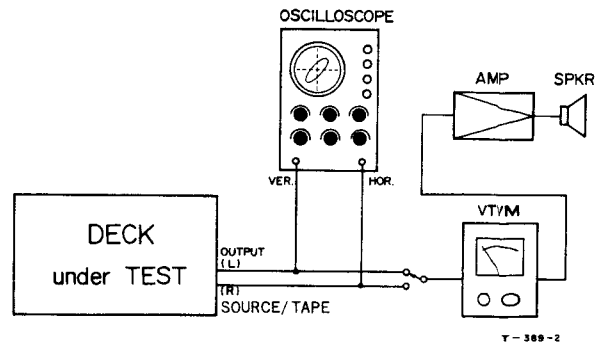

Fig. 10-5 Head Alignment Fine Adjustment Set-up and test connections (PLAYBACK)
6. Connect an oscilloscope to the OUTPUT SOURCE/ TAPE jacks as shown in Fig. 10-5.